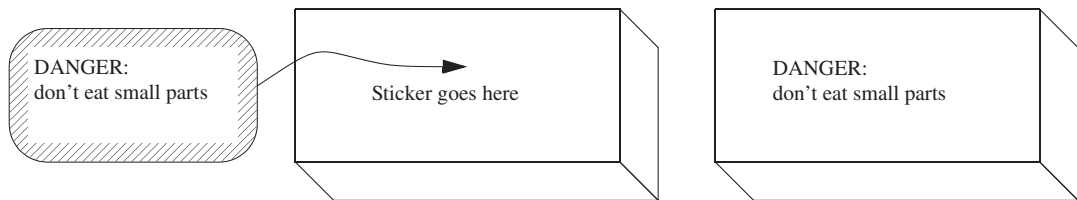

FIGURE 11.3
- Instead of attaching labels to plastic parts, add the lettering into the mold. This completely eliminates a part and the associated operations (Figure 11.3).